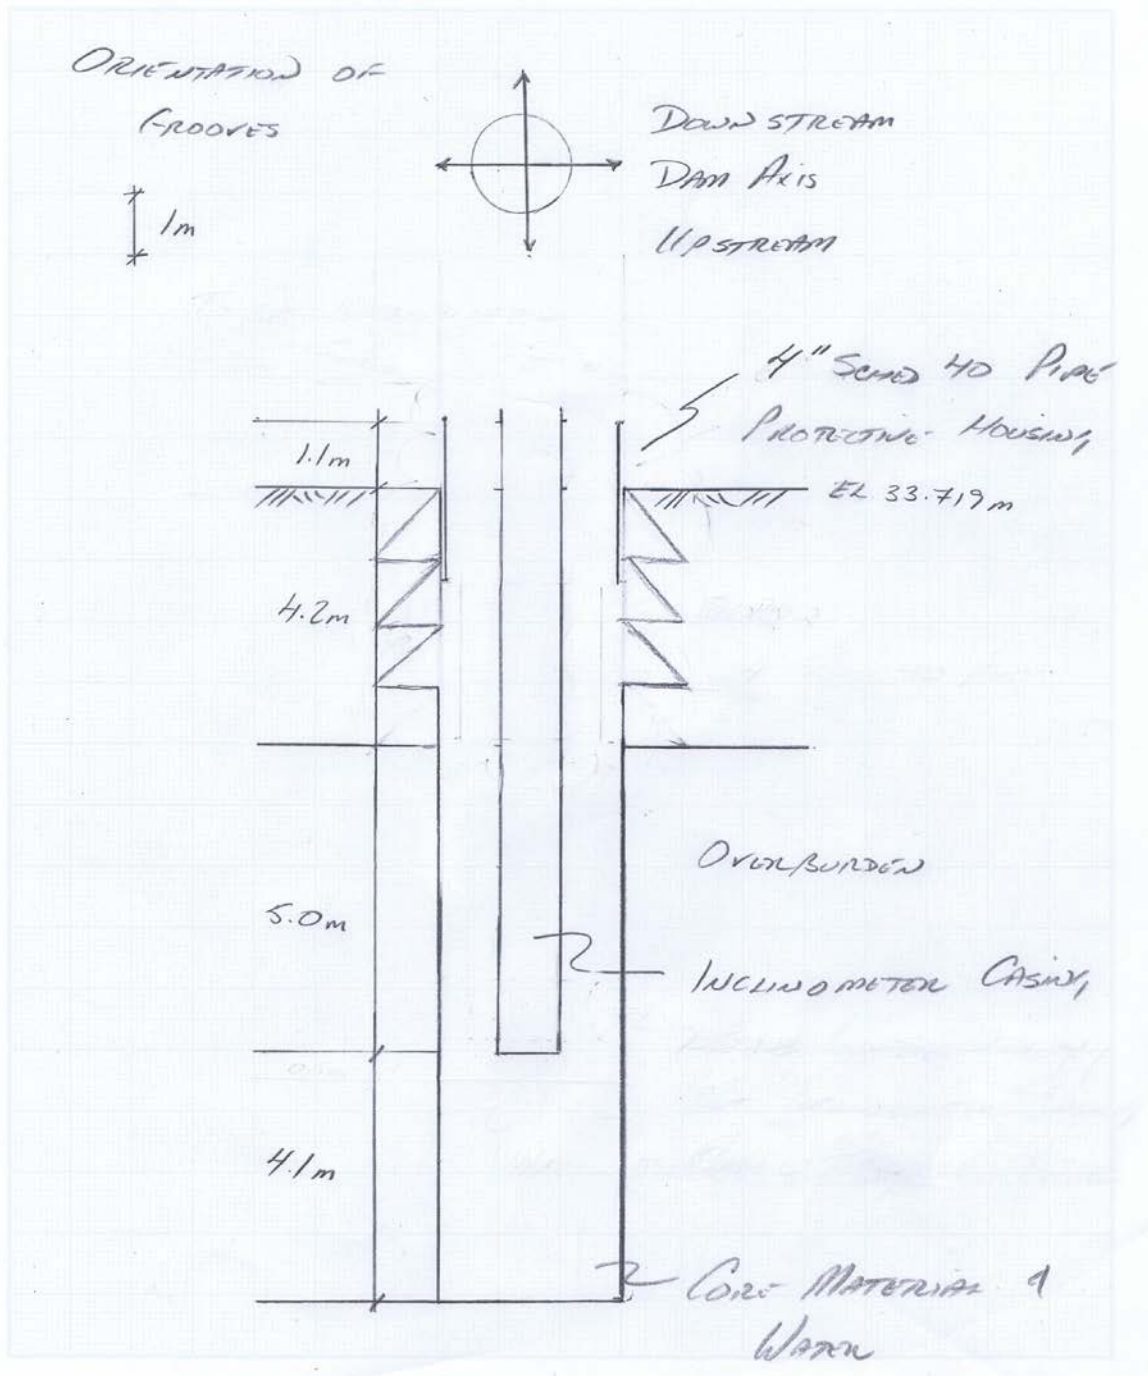

Figure 2: As-built of slope indicator casing installation for ND-IN-120-3.
- ND-IN-120-3 was reconstructed to design (Figure 2):